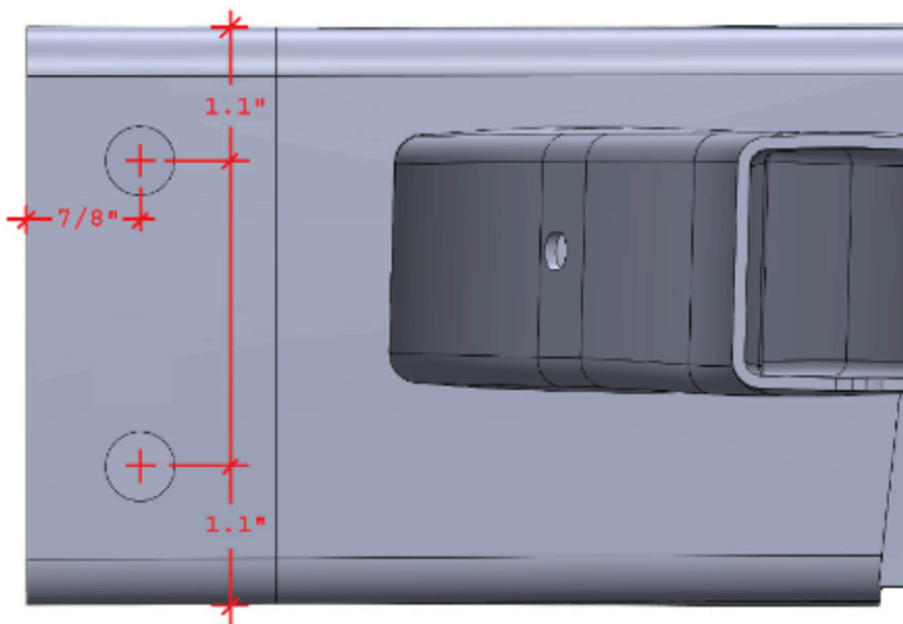

Figure 2
3. Use a 9/16" drill bit to drill two holes on the inside of the frame on both driver and passenger side. Use the diagram below for measurements. Figure 2.